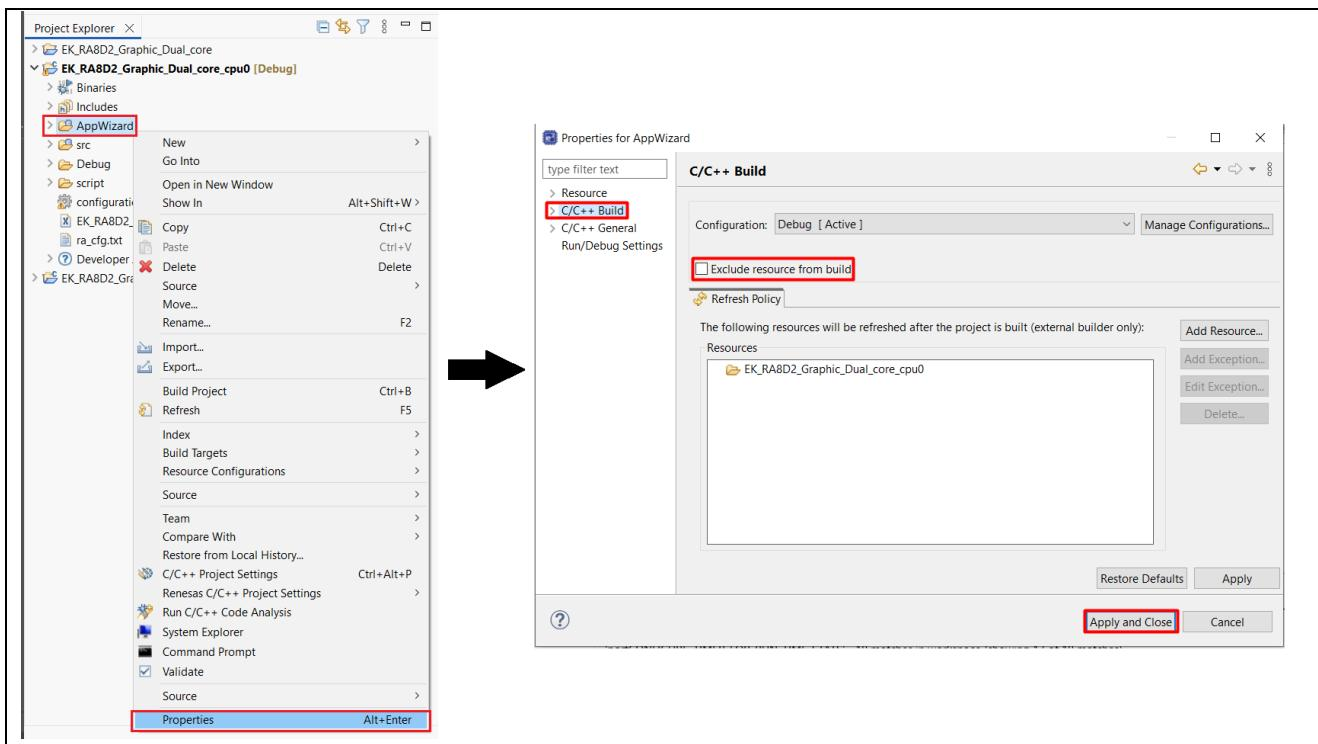

Figure 8. Verify AppWizard as Source Folder
- Refer to Figure 8 below for visual confirmation of this setting.